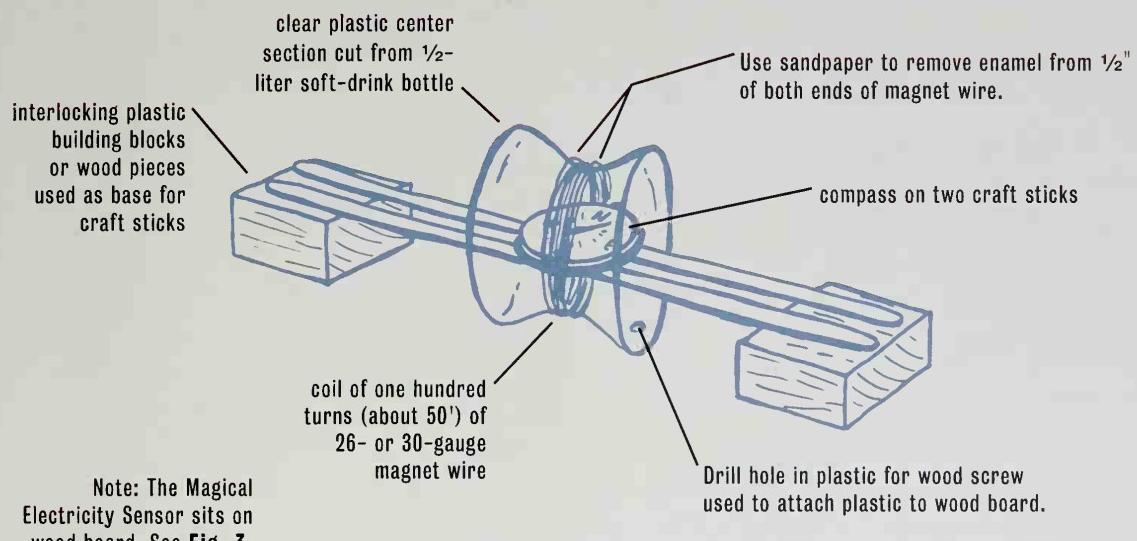

Fig. 1
1. As shown in Fig. 1, for the sensing unit wind the magnet wire around the plastic cut from an empty plastic soda bottle. Leave about a foot free at both ends.